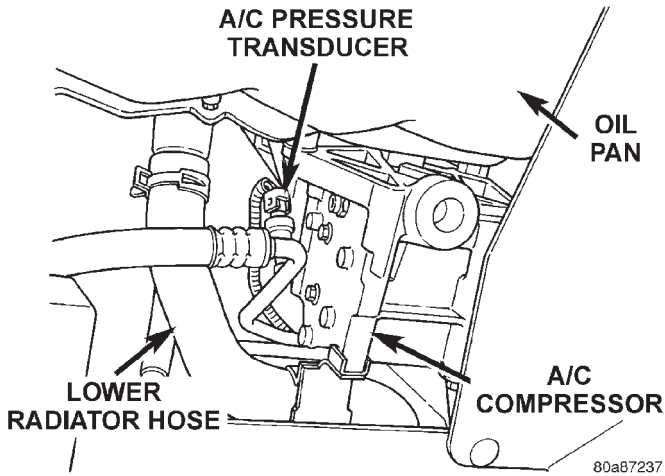
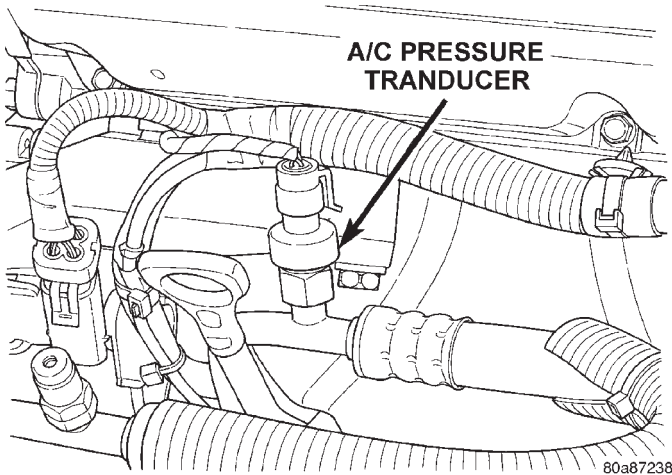

Fig. 11 Pressure Transducer (2.4L engine, viewed from beneath vehicle)
Fig. 12 Pressure Transducer (2.5L engine)
(3) Remove the transducer with a counterclockwise rotation using a 14 mm open-end wrench (Fig. 11) and (Fig. 12).